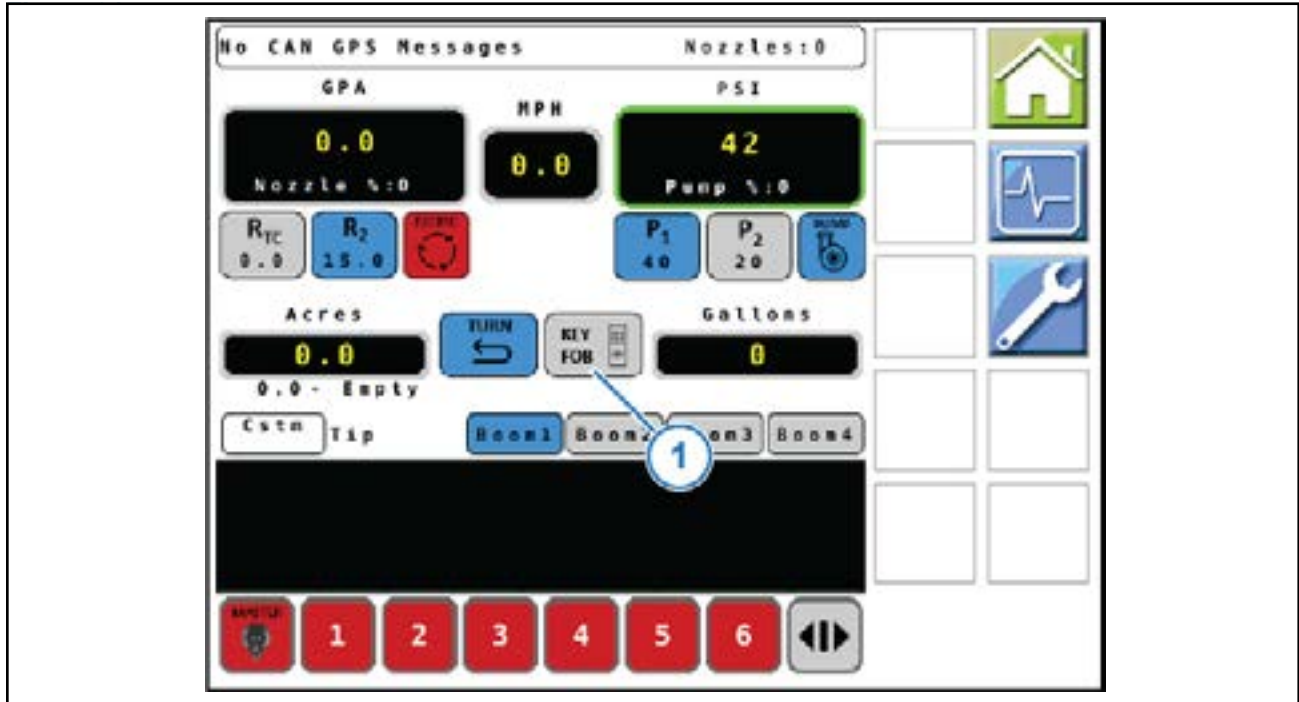

Figure 33: Key Fob Mode
1. After performing the boom shutoff wet test, initiate the key fob boom shutoff wet test, by selecting the **KEY FOB** icon (Figure 33, Item 1)
4. Press the right/left buttons (Figure 33, Item 2) on the key fob to turn on/off each individual nozzle valve.
5. Press the center button (Figure 33, Item 3) on the key fob to turn off the whole boom.